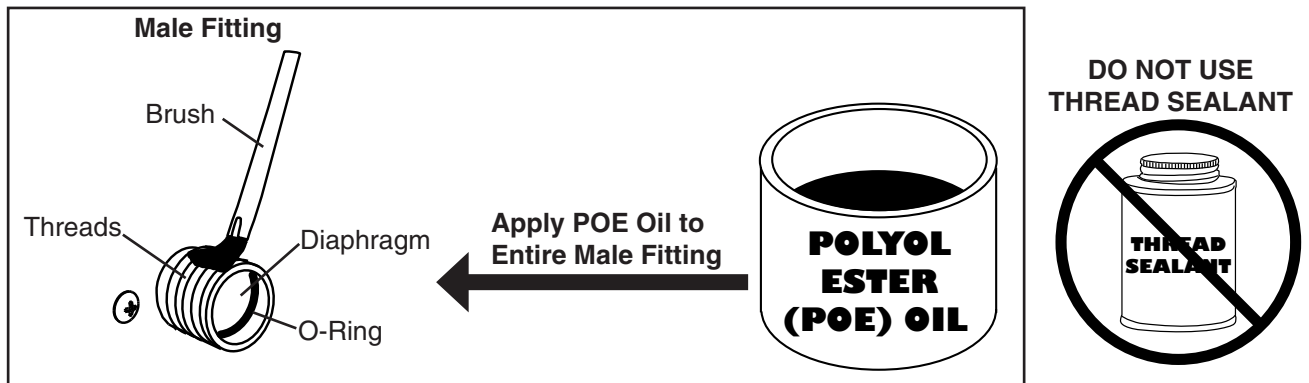

Fig. 7
- b. Apply Polyol Ester (POE) refrigerant oil to the entire male fitting, including threads, o-ring, and diaphragm, before making the connection. See Fig. 7.